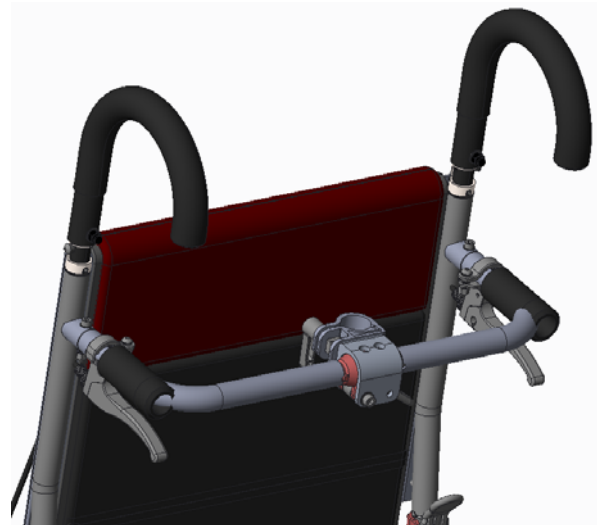

Fig. 1-17
2.1.19 Complete the installation process of the left/right J-Hook Handles. (See Fig. 1-17)